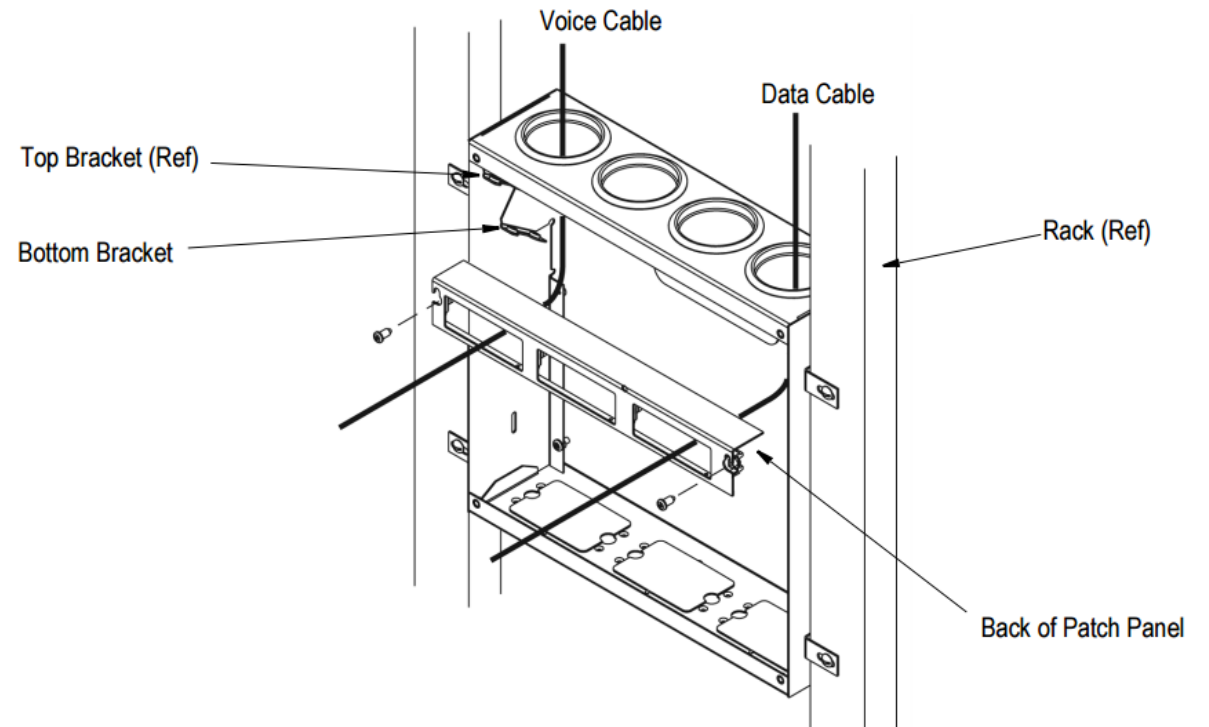

Figure 3
1. Separate the voice (telephone distribution) and data (computer networking) cables and insert them through the cable hole plugs of the enclosure. It is recommended that the voice cable be located on the left and the data cable on the right of the enclosure. See Figure 3. Allow a minimum of 46 cm [18 in.] of excess cable inside the enclosure.